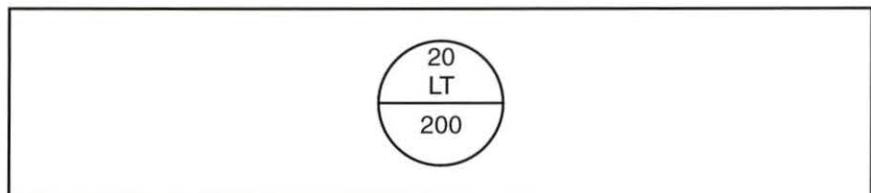

Figure 80. Instrument Tag
7. Identify the loop and area the device is in using the instrument tag in figure 80.